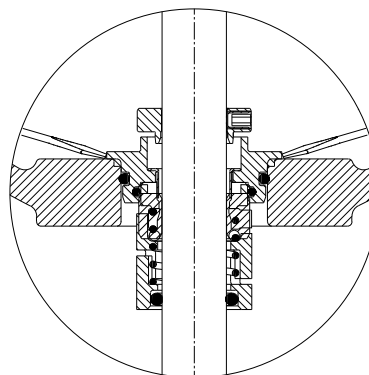

Fig. 1 Removing upper shaft seal
1. Remove screws (pos. 58a) and retainer (pos. 58).
2. Clean end of shaft (pos. 51).
3. Slacken set screws (pos. 113) of shaft seal (pos. 105).
4. Carefully press shaft seal out of pump head (pos. 2) using two slot screwdrivers, and pull it off the shaft. See fig. 1.